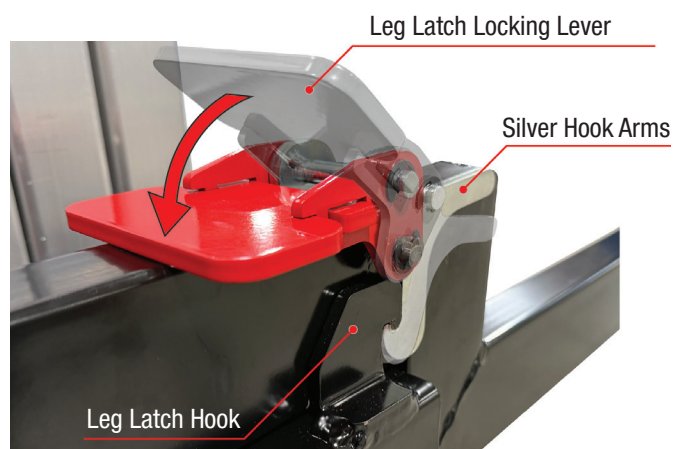

Figure 6-11: Locking Legs In Place
3. When each leg is fully lowered, press the silver hook arms down to position the silver hooks with the leg latch hooks. Lock legs in place by pressing down the red leg latch locking lever until it fully engages the latch hooks and the lever lays flat against the leg tube (see Figure 6-11).